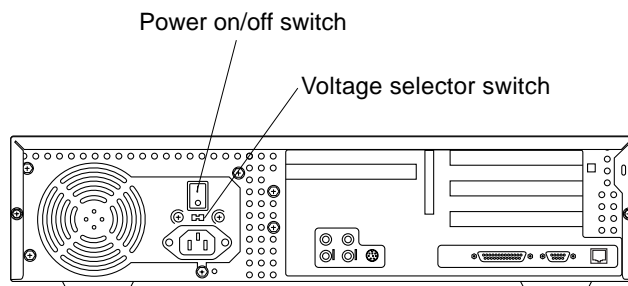

FIGURE 3 System Unit Power On/Off Switch (Ultra 5)
c. Set the system unit power on/off switch to the off position (FIGURE 3).
- d. If necessary, set the power on/off switch to the on position (FIGURE 3).**